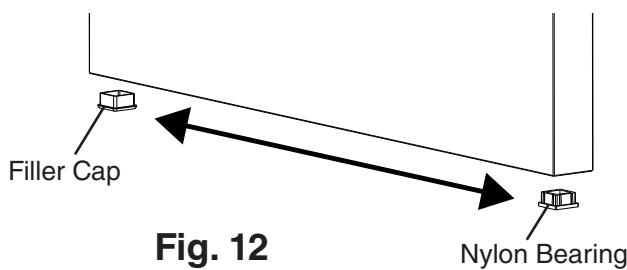

Fig. 12
- 10) Remove the filler cap and nylon bearing from the bottom of the door. See Fig. 12. Reinstall on the opposite side.